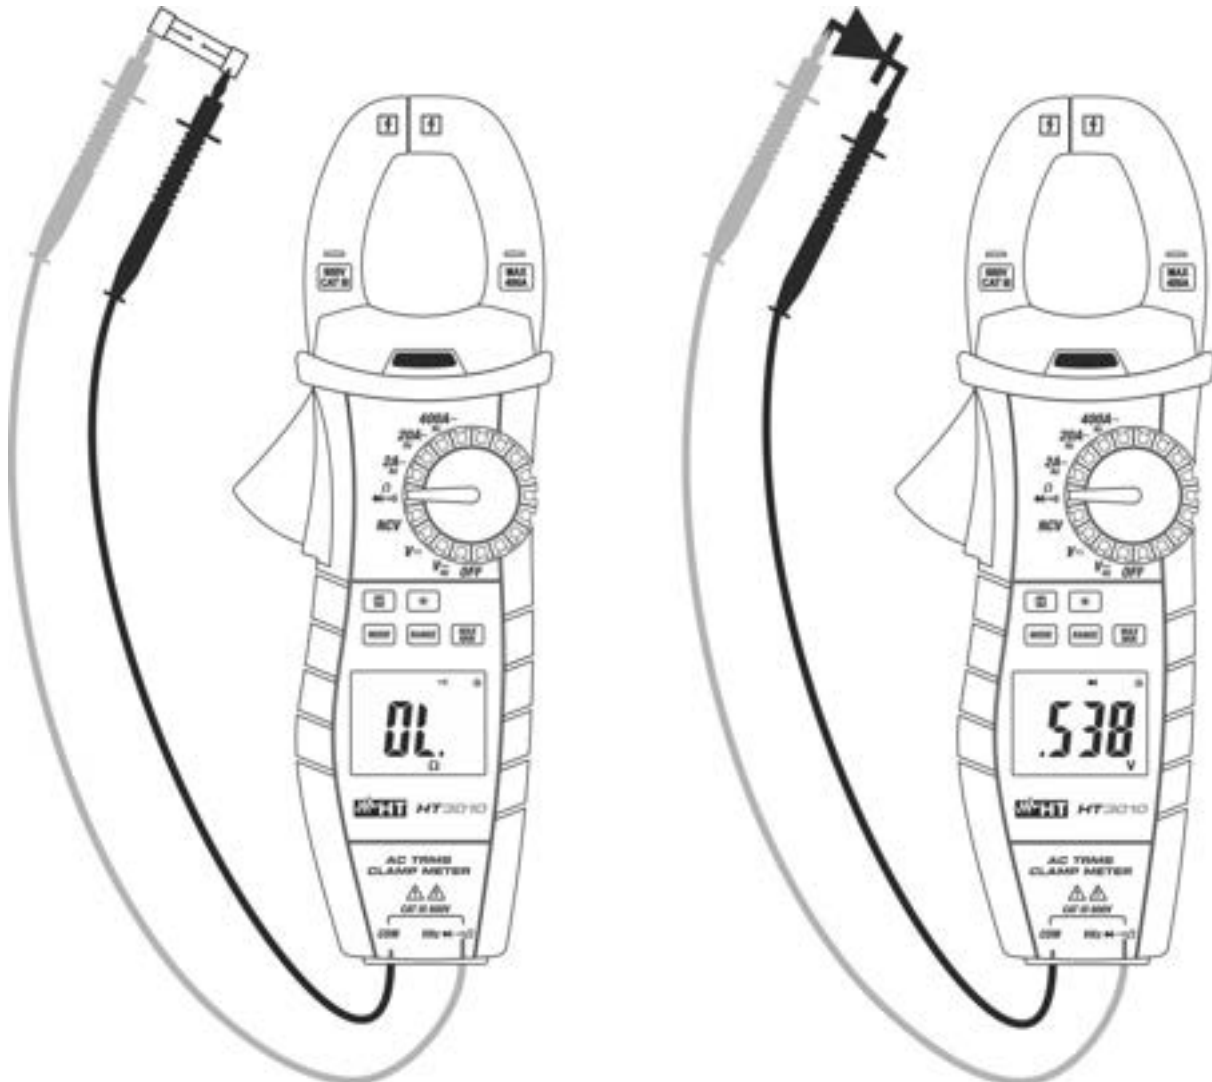

Fig. 7: Use of the instrument for continuity test and diode test
3. Insert the red cable into input terminal **V Ω Hz $\rightarrow \text{diode symbol}$** and the black cable into input terminal **COM** and carry out the continuity test of the object to be measured (see Fig. 7– left side). An buzzer sounds when the measured value of resistance is lower than 30Ω
5. Connect the red lead to the anode of the diode and the black lead to the cathode in case direct polarization measurement is carried out (see Fig. 7 – right side). Invert the position of the leads in case reverse polarization measurement is carried out.